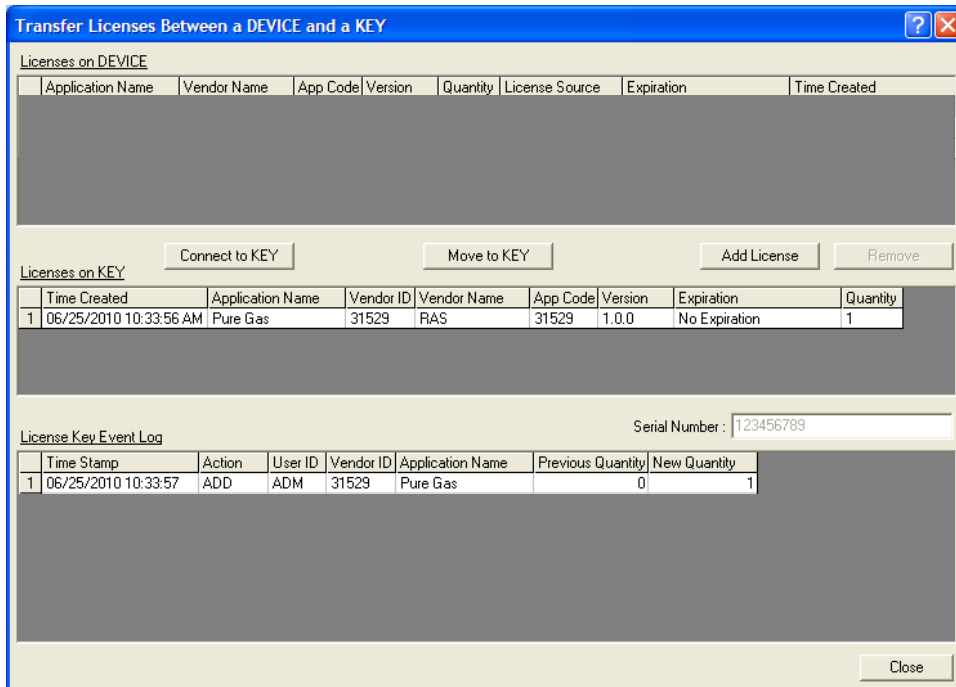

Figure 1. Transfer Licenses Between a Device and a Key
- 3. Select the key-based licenses you want to transfer to the FB107 (PureGas, as shown in *Figure 1*).